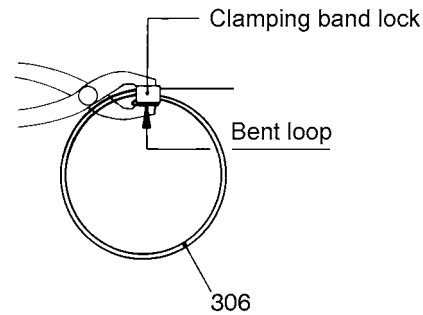

Figure 12: Press down joint clamp loop onto joint clamp lock
- Pull on the joint collar (308) with a screwdriver, lift on top with a screwdriver, guide the spray pipe of the oil bottle underneath the collar and fill the joint cavity with ALLWEILER special joint oil type B or oil ET 1510 ISO 460 by Tribol Lubricants GmbH, Mönchengladbach. For application in the food industry with ALLWEILER special joint oil type BL or oil 1810/460 by Tribol Lubricants GmbH, Mönchengladbach. For the filling quantity, see the table in Chapter 7.1.2.6.
- Check, whether the bent loop of the joint clamp (306) is attached to the joint clamp lock. If not, press down with a common pair of flat-nosed pliers (see figure 12).